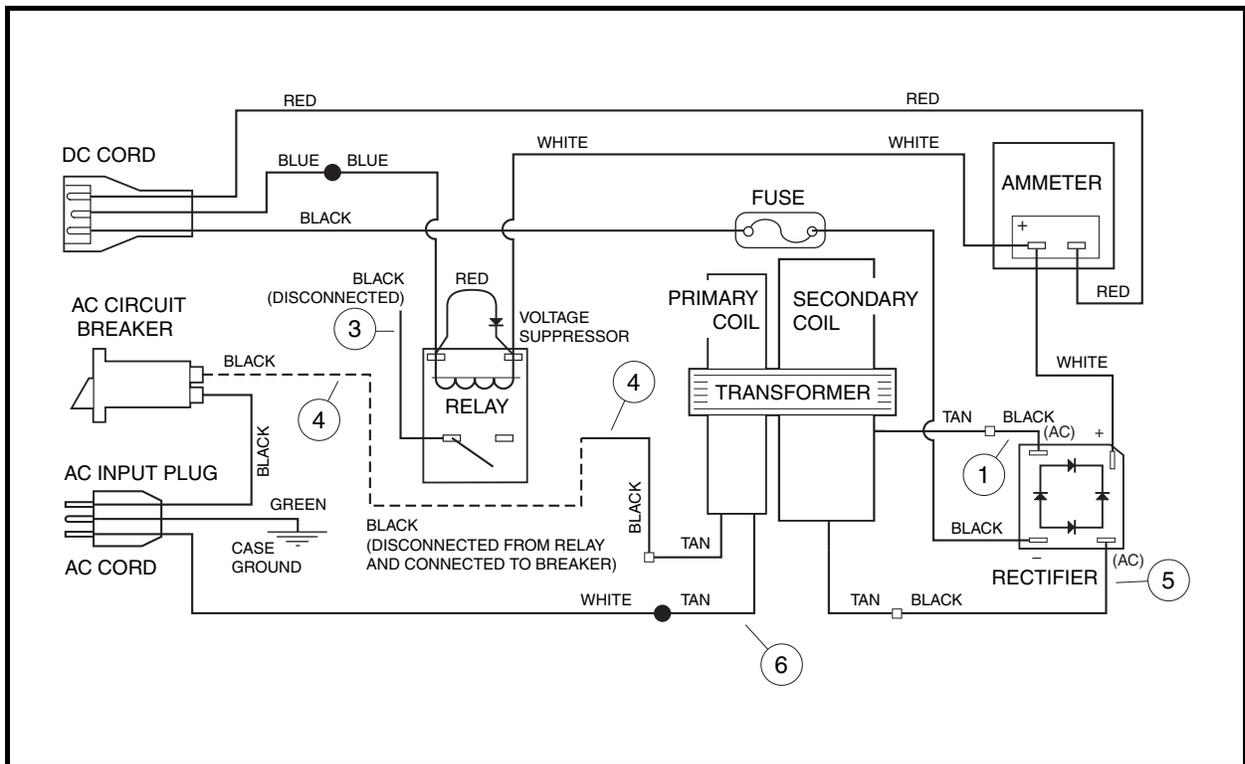

Figure 5-21 PowerDrive 2 Charger Wiring Diagram (Relay Bypassed)
- 4.1. To bypass the relay, remove the black wire (3) from the AC circuit breaker and disconnect the black wire (4) from the relay. Connect the black wire (4) to the AC circuit breaker (**Figure 5-21, Page 5-31**). **See following DANGER.**
8. Disconnect the transformer wire (4) from AC circuit breaker and connect it to the relay. Connect the short black wire (3) from the relay to the AC circuit breaker (Figure 5-21, Page 5-31). **See following WARNING.**